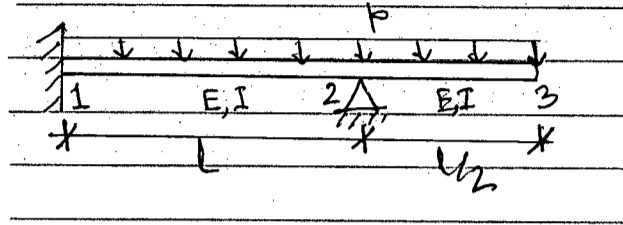

Fig. 4
3. (a) A propped cantilever beam is subjected to a distributed vertical load p as shown in Fig. 4. Show the work equivalent nodal loads. Ignoring nodal moment at the right end, find the deflection and rotation at node 3. (12)